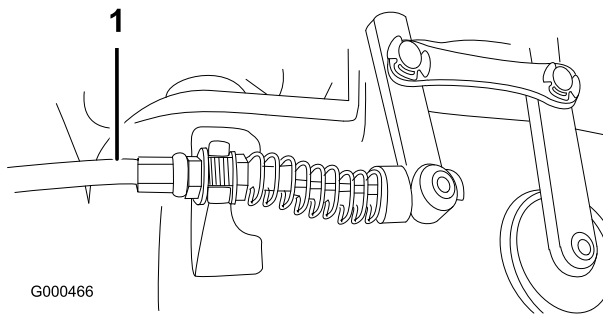

Figure 45
2. To increase cable tension, loosen front cable jam nut and tighten back cable jam nut (Figure 45) (located on top of gear box) until the reel cable force adds 7 to 10 lbs. of additional handle force measured at the control knob.